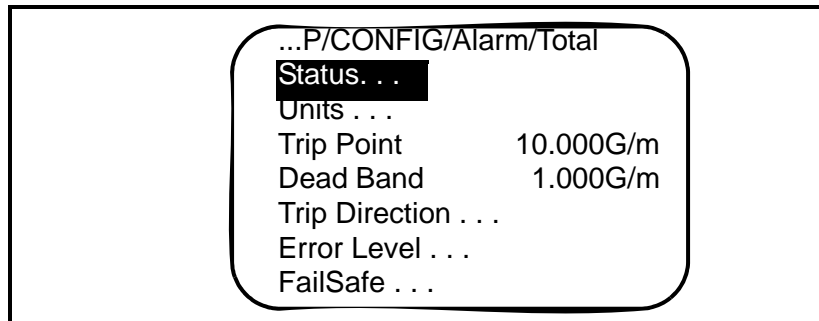

Figure 4-3: The Alarm Option
4. Use the [▲] and [▼] keys to scroll to the *Alarm* option and press [ENT]. The screen now appears similar to Figure 4-3 below.